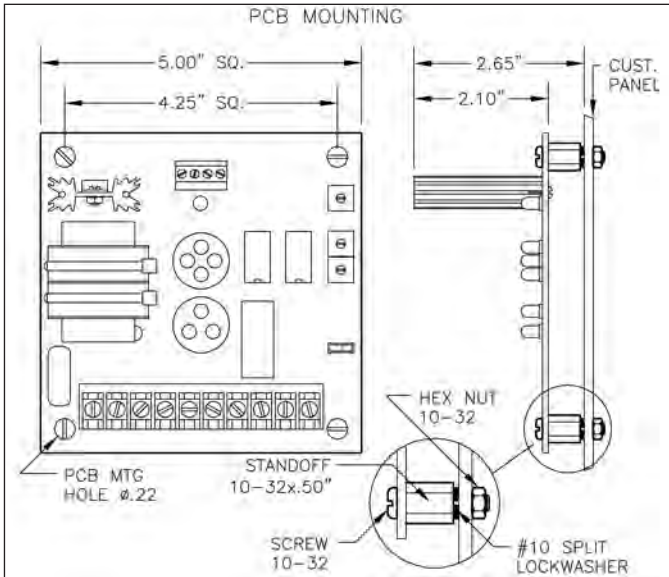

Figure 8
**PCB Only** - (See Figure 8) Carefully handle the PCB so as not to damage components or to create an electrostatic discharge (ESD). Leave PCB in shielded bag until ready to install. Mount the PCB in an enclosure suitable for the particular application (i.e. water-tight, dust-tight, non-hazardous location). Select a location free from heavy electrical switching caused by heavy motors, actuators, etc. Position PCB so all connectors and control adjustments can be accessed. Use the four corner holes to mount the PCB. Hardware (standoffs, nuts, screws, washers) is provided for installation convenience.